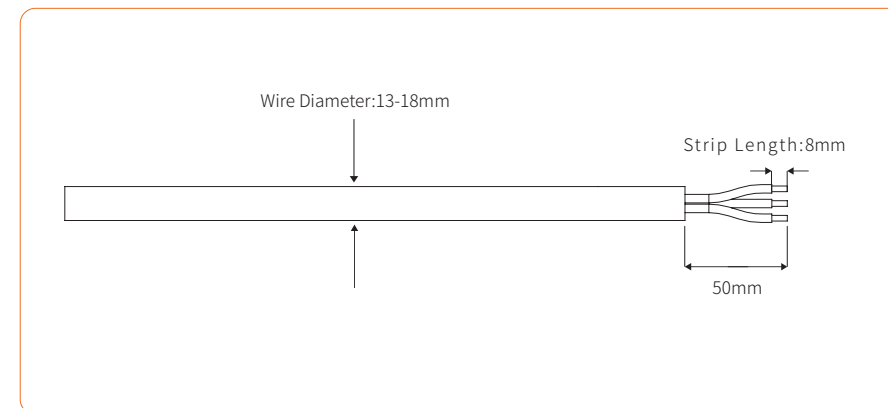

Figure 4-17
- ② According to the table above, select an appropriate cable, peel the insulation sleeve of AC cable off for 50mm, and peel off the end of L / PE / N wires for 8mm, as shown in Figure 4-17: